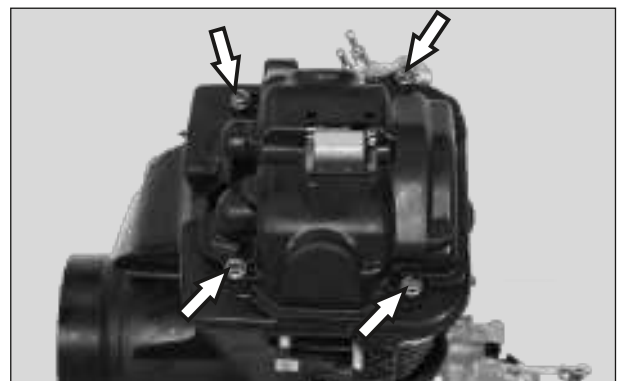

Fig. 3.34
- Uniformly loosen and remove 4 nos. hexagonal flange bolt M6X35 from the cowl top air cooling. ( Fig. 3.34)